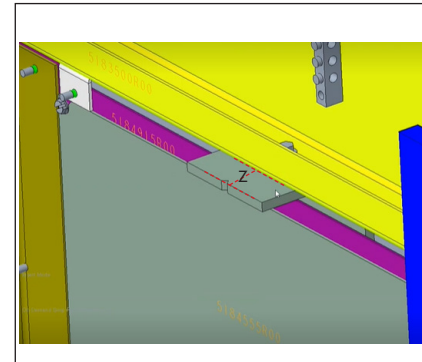

Figure 6: Z-Axis Depth
3. Refer to the contract-specific Shop Drawing to determine the Z-axis depth. Measure from the front flange of the chassis to the front flange of each C-clip. Refer to **Figure 6**.